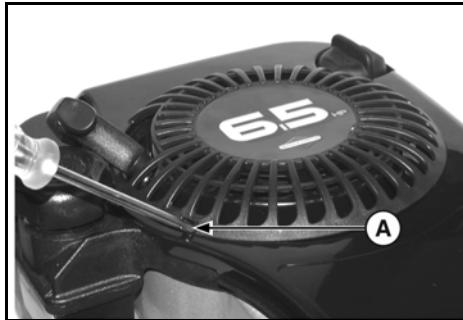

Figure 16
4. Install air cleaner cover. Press on tab (A, Figure 16) until finger guard attaches to engine.